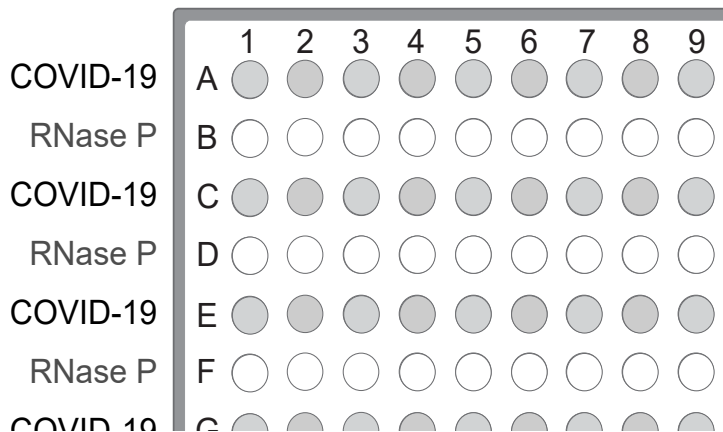

Figure 5 Assays in alternating plate rows
- a. Starting with row A, pipet 20.0 μ L per well of the COVID-19 Reaction Mix into every other row of a MicroAmp™ Fast Optical 96-Well Reaction Plate with Barcode, 0.1 mL or a MicroAmp™ Optical 96-Well Reaction Plate with Barcode, 0.2 mL. See Figure 5 on page 63.